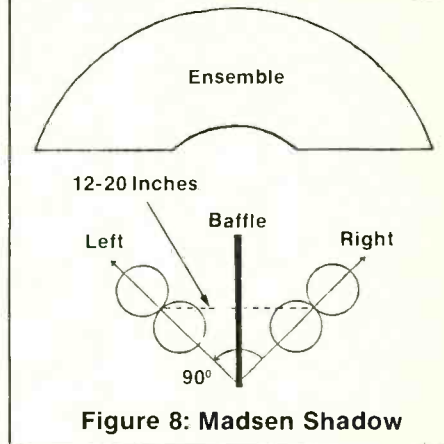

Figure 8: Madsen Shadow
2. Madsen Shadow (Figure 8) utilizes two figure-eight microphones separated by a baffle, and angled at 90° to one other.